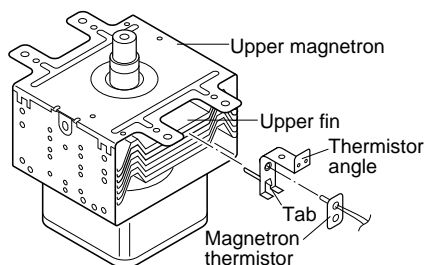

Figure C-1. Magnetron thermistor installation
1. Install the magnetron thermistor to the thermistor angle as shown in Figure C-1.